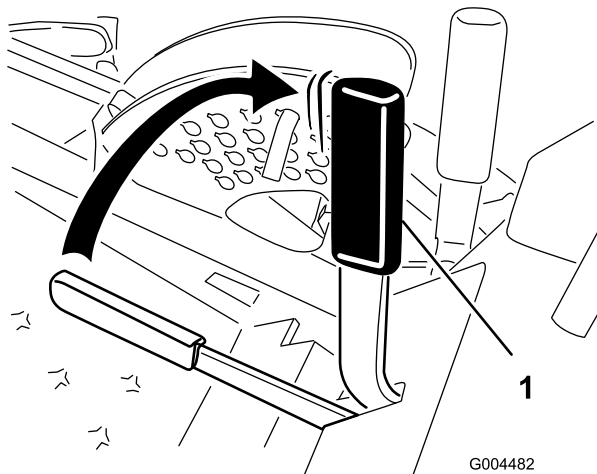

Figure 13
2. Pull up and back on the parking brake lever to set the parking brake (Figure 13). The parking brake lever should stay firmly in the engaged position.
Push forward and down on the parking brake lever to release the parking brake (Figure 13).